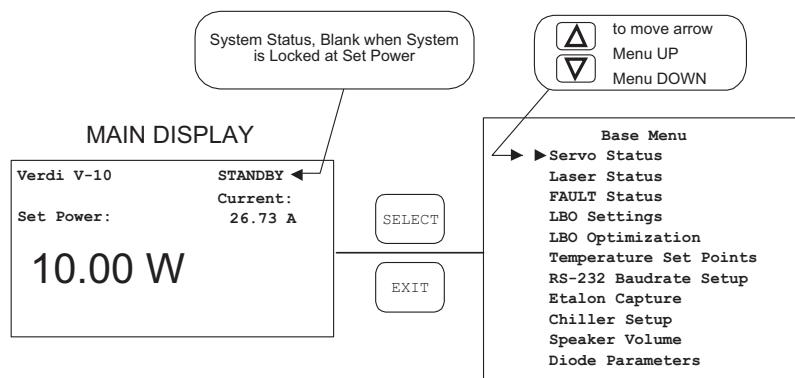

Figure 4-4. Menus
3. Once the keyswitch is in the ON position, the Main Display will appear on the power supply front panel display. Refer to Figure 4-4 on page 4-12 for a list of the display menus.
Figure 4-4 shows the Verdi Main Display and the Base Menu screens. The Base Menu screen can be reached from the Main Display screen by pressing the SELECT pushbutton on the power supply front panel. Once in the Base Menu screen, the user can return to the Main Display screen by pressing the power supply EXIT pushbutton.
Navigation through a list of submenus, such as those in the Base Menu screen, is achieved by pressing the UP and DOWN arrow keys on the power supply front cover. When the selection arrow (see Figure 4-4) points to the desired submenu, that item can be activated by pressing the SELECT pushbutton. Pressing the EXIT pushbutton will deactivate the submenu, and re-display the Base Menu screen. Examples and explanations for all Verdi submenus can be found in Table 4-5.
The current status of the laser system is displayed in the upper right-hand corner of the Main Display screen of the software (see Figure 4-4). Possible messages are: